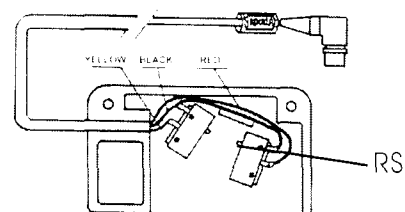

Figure 3
8. After having checked that there are no parts missing to operate the pedal switch, measure the resistance between the terminals of the bed, raise switch R.S. with an ohmmeter (the unit housing the HL switches must be disassembled). These terminals are located under the bed, next to the pedal (black and red wires, see fig 3).